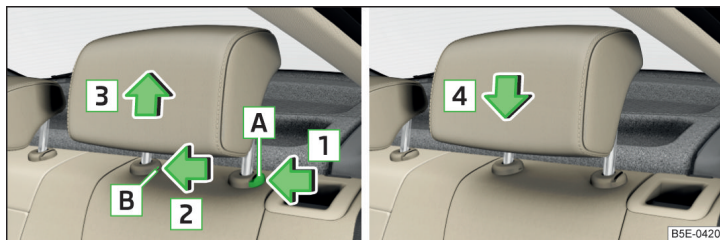

Fig. 68 Removing and installing rear head restraints
- Press the locking button **A** in the direction of arrow **1** » Fig. 68, while at the same time using a flat screwdriver with a max. width of 5 mm to press the securing button in opening **B** in the direction of arrow **2**.